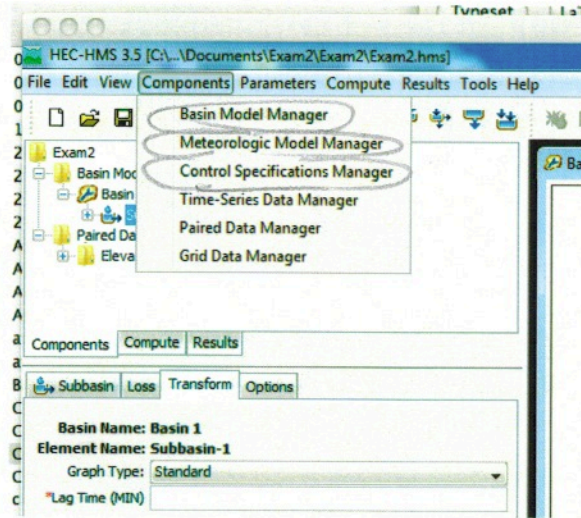

Figure 8: Components pull-down menu in HMS
4. A HEC-HMS model must have three components to run. Circle the three components required for any HEC-HMS model to run in Figure 8